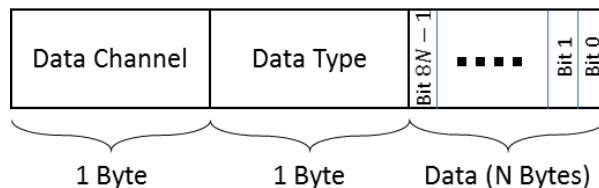

Figure 5-5: UL Frame Format for GNSS Report
GNSS scan results are sent on **LoRaWAN port 10** and have the frame format shown in Figure 5-5. When GNSS scans are enabled, CHICKADEE performs multiple scans until a suitable position fix is acquired, with each scan lasting a non-configurable duration of four (4) seconds. These scans can last for a maximum non-configurable period of 210s per period before the CHICKADEE moves on to the next scan type defined in the geolocation cycle. If a suitable position fix is acquired before the 210s timeout, then the scan results are sent to the application.